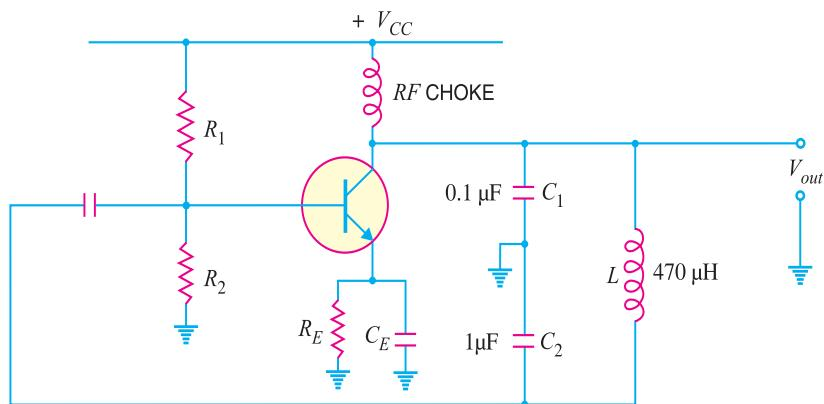

Fig. 14.24
1. Figure 14.24 shows the Colpitt's oscillator. Determine the (i) operating frequency and (ii) feedback fraction.
3. For the Colpitt's oscillator shown in Fig. 14.24, $C_1 = 750 \text{ pF}$, $C_2 = 2500 \text{ pF}$ and $L = 40 \mu\text{H}$. Determine (i) the operating frequency and (ii) feedback fraction.